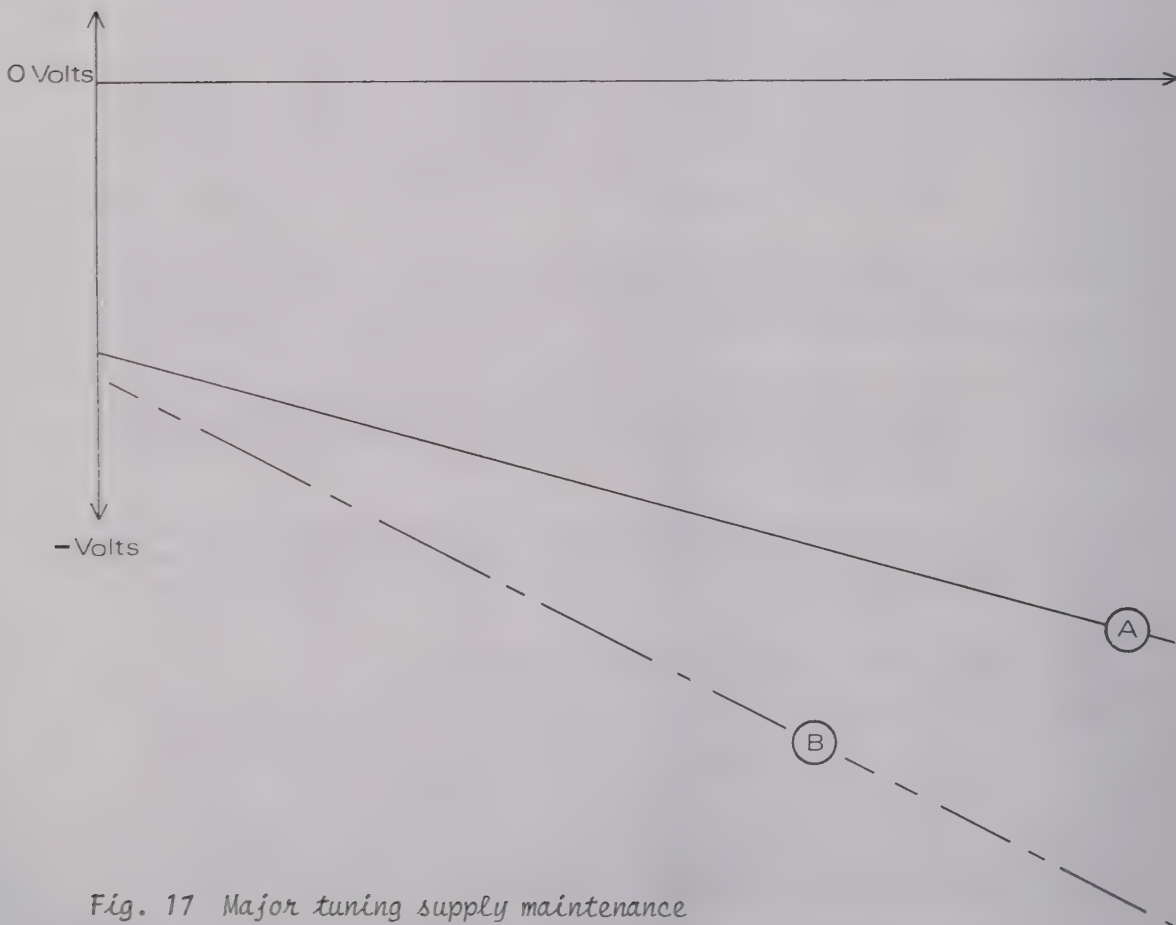

Fig. 17 Major tuning supply maintenance
- (5) Connect the oscilloscope vertical input to A2TP2.
- (6) Turn on a.c. power and observe that a linear negative ramp voltage starting at approximately -13 to -15 volts is present on the oscilloscope. (See waveform A, Fig. 17). If this waveform is not present standard trouble-shooting procedures should be used. If waveform is present proceed to step (7).
- (7) Using clip leads, momentarily connect a 10 k Ω resistor in parallel with A2R79. The slope of the ramp voltage should become more negative if the circuit is functioning properly (see waveform B, Fig. 17).